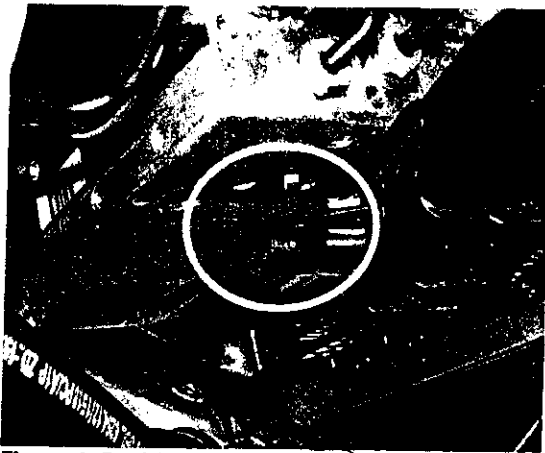

Figure 4: Position of the cable tie
5. Remove cable tie where SBC connector housing fits into SBC wiring harness (Figure 4).